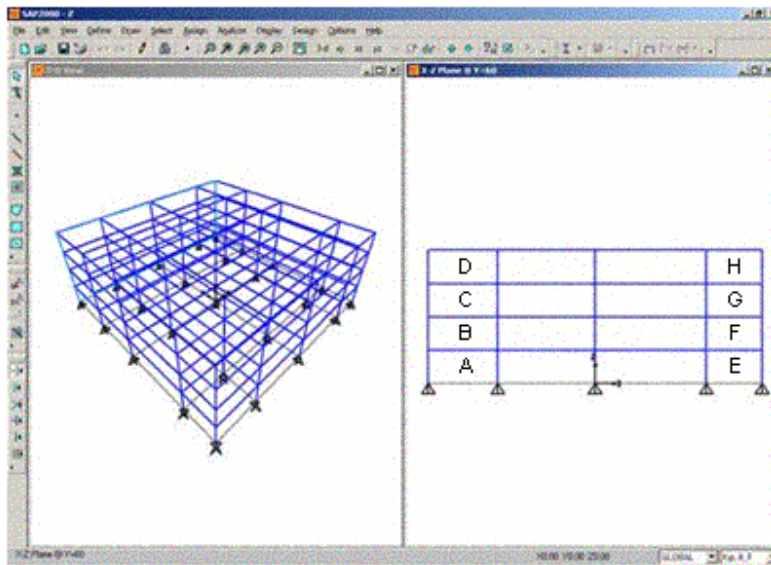

Figure Z-1: Screen After Step 9
9. Click the **XZ View** button . The view switches to the X-Z plane @ Y=60 and appears as shown in Figure Z-1.
11. Click once in each of the regions labeled “A,” “B,” “C” and “D” in Figure Z-1 to enter four area objects.
- Click the **OK** button. The screen appears similar to that shown in Figure Z-1 (except that the location is now at Y=-60).
13. Click once in each of the regions labeled “E,” “F,” “G” and “H” in Figure Z-1 to enter four area objects.